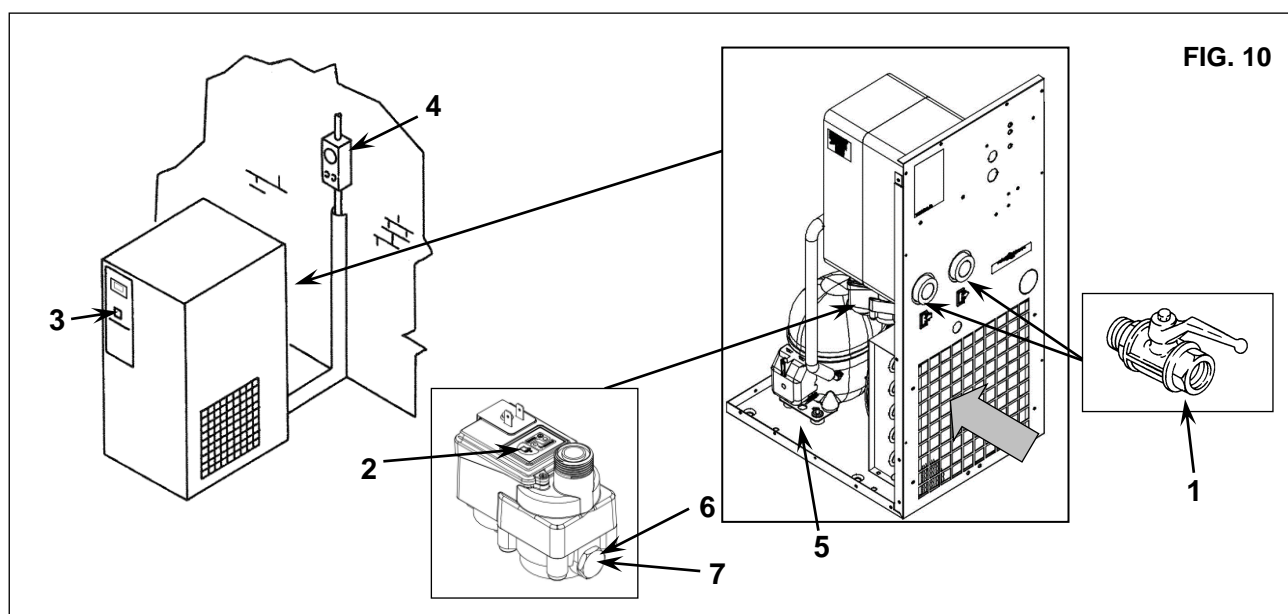

FIG. 10
16.2 CLEANING OF THE AUTOMATIC CONDENSATE DISCHARGER FILTER (Fig. 10)
- Close the cock Ref. 1 Fig. 10
- Release the pressure in the dryer by pressing the condensate drain "TEST" pushbutton located on the steam trap Ref. 2 Fig. 10.
- Switch off the machine by pressing the STOP button Ref. 3 Fig. 10
- Turn on the supply automatic differential switch Ref. 4 Fig. 10
16.3 CLEANING THE CONDENSER (Fig. 10)
- Remove the panels Ref. 5 Fig. 10
- Clean the condenser fins Ref. 1 with compressed air (Fig. 10) **DO NOT USE WATER OR SOLVENTS**
- Close the panels Ref. 5 Fig. 10